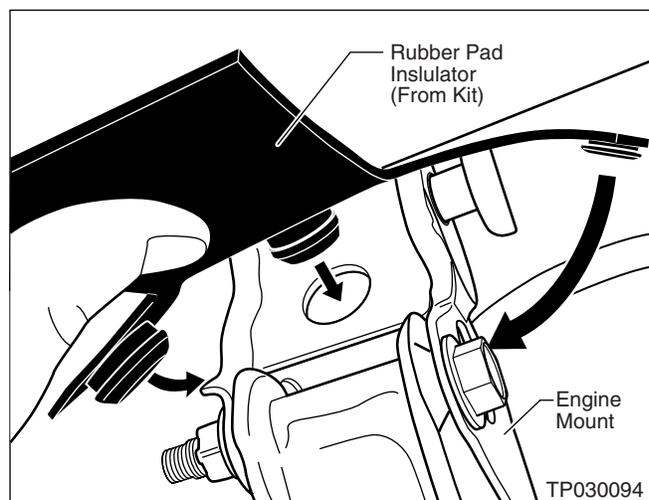

Figure E18
23. Securely press the Rubber Pad Insulator into the holes of the Engine Mount (see Figure E18).